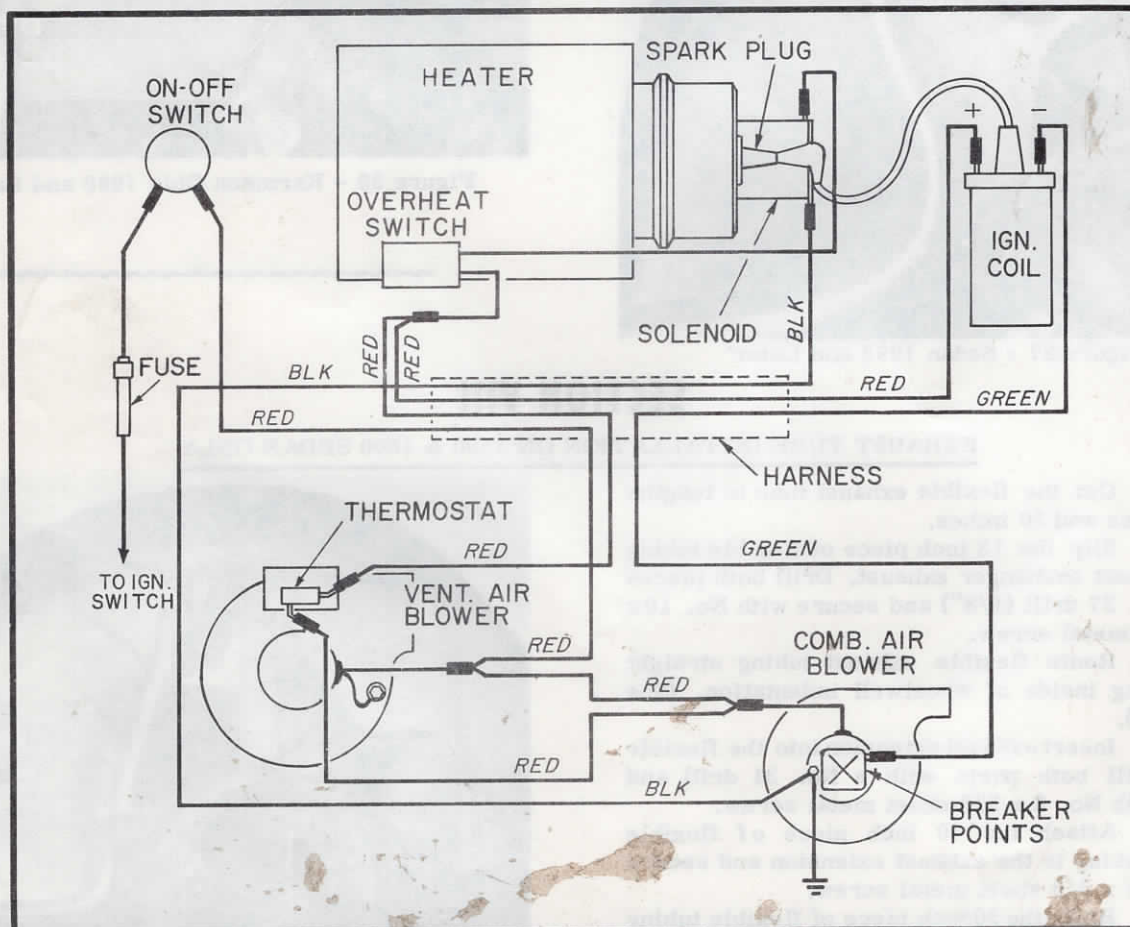

Figure 31 - Wiring Diagram
7. Attach the green wire to the breaker points terminal; put the black ground wire with #10 eyelet onto the combustion air motor stud and secure with nut provided. Install the other black ground wire eyelet to one of the screws holding the motor mounting bracket; plug the red combustion air motor lead into the appropriate terminal in harness. (See Wiring Diagram - Figure 31).
14. Route the wiring harness around back side of heater and connect terminals to proper components. See wiring diagram - Figure 31.